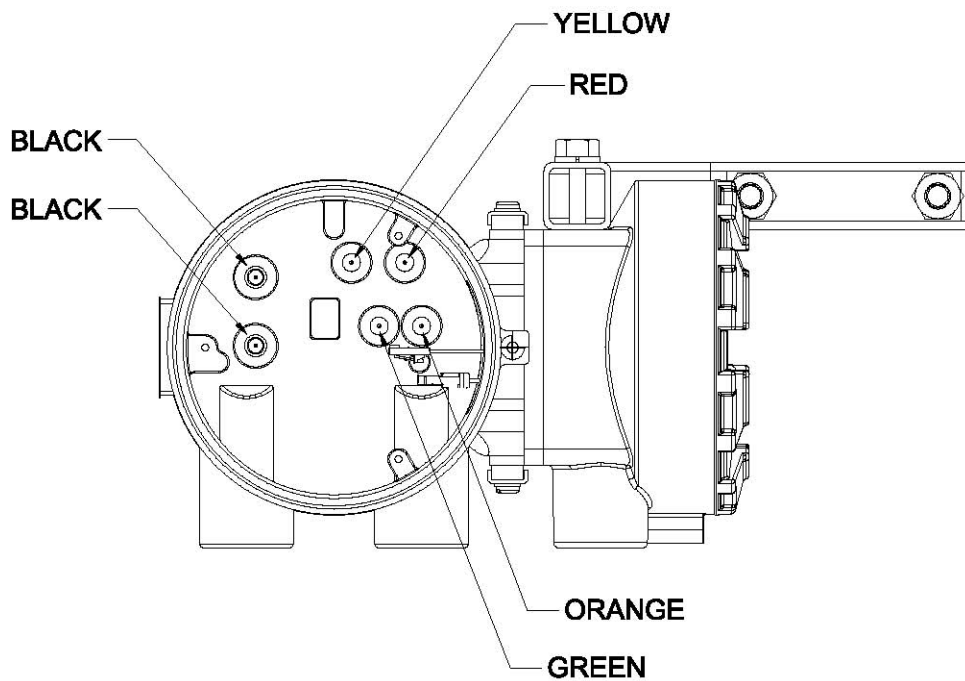

Figure 2 – Wire Harness Connections in Integral Probe
- 2.6 Connect the two short harnesses to the appropriate connectors inside the electrical housing compartment as shown in Figure 2.